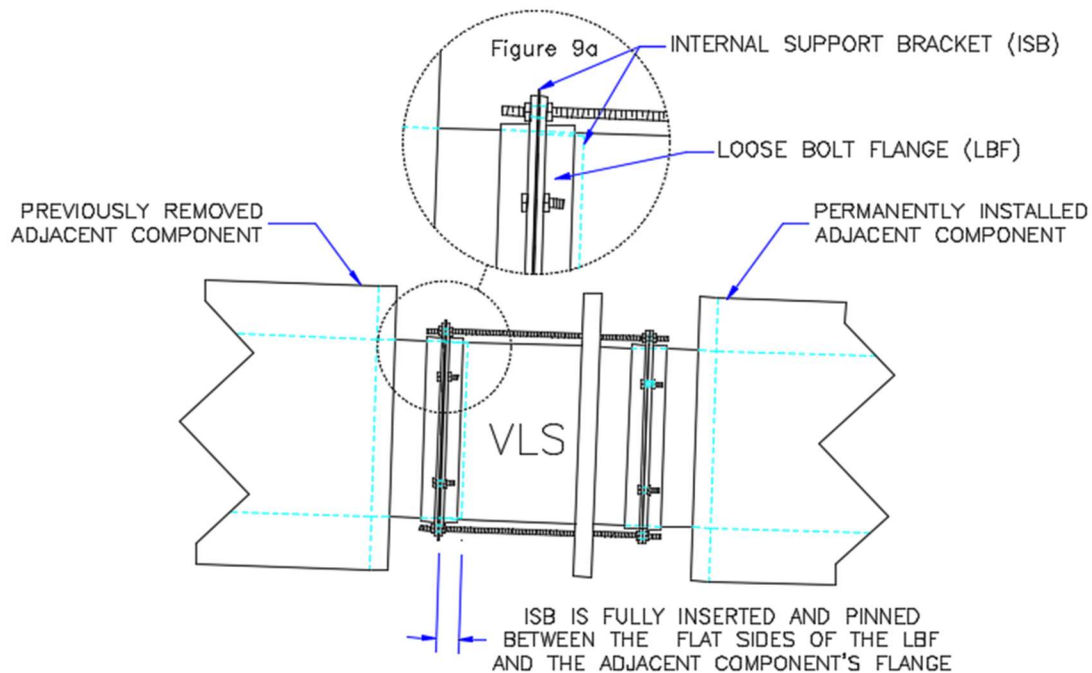

Figure 9: Reinstall the previously removed adjacent component.
16. Reinstall the previously removed adjacent component by making sure the threaded rods are going through the correct holes and tightening two more nuts to the loose end of the threaded rods (See figure 9a). Make sure the ISB is fully inserted in the VLS, and the previously removed component is tight up against the ISB. (See figure 9)